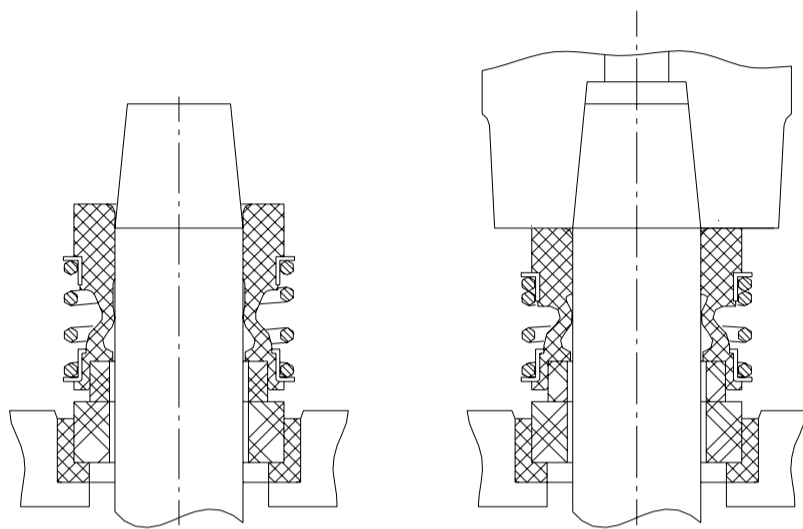
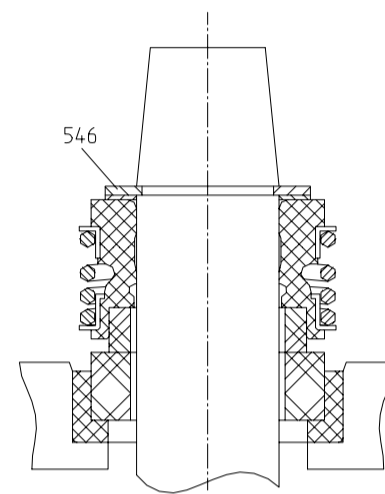

Fig. 23
Fig. 24
Wet the rotating part of the mechanical seal with soap water. Push the whole assembly by hand over the shaft as far as possible. On size 20 mm (Fig. 23) final assembly by installing of impeller. On other sizes (Fig. 24) secure with snap ring (546).